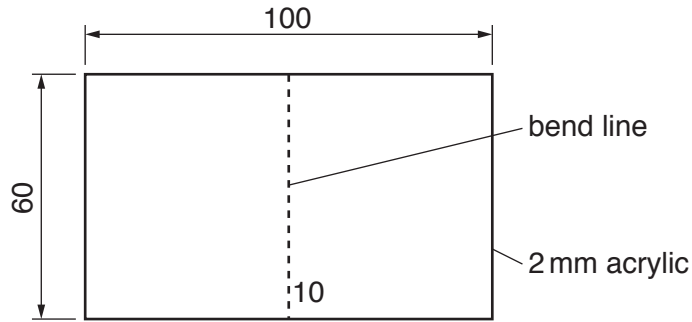

Fig. 7
- (d) Fig. 7 shows a piece of acrylic that will be bent at 90°. The acrylic will be used as a cover in the food mixer.